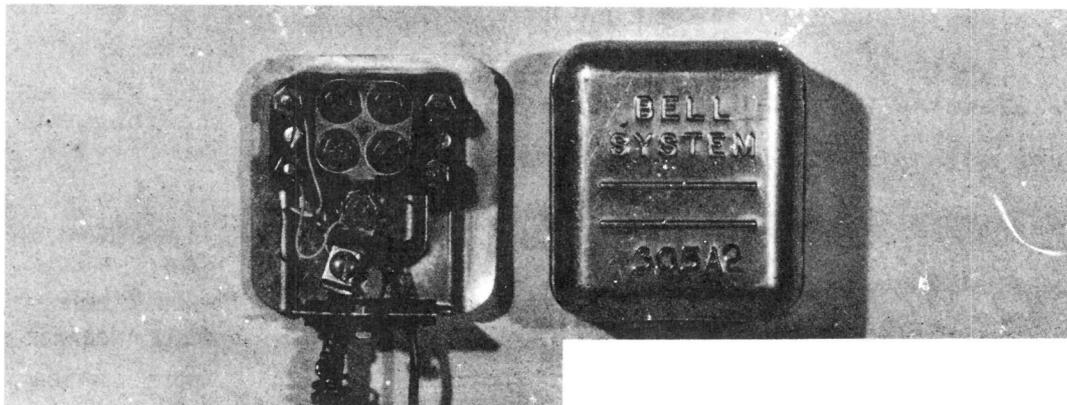

FIGURE 9
7.02 Mount the 305A2 Protector Mounting on the exterior wall of the unit at the desired location. Secure the 128A1A-2 Protector within the 305A2 Protector Mounting. See Figure 9.
- 7.09 Terminate the conductors under the bottom nut of the binding posts on the protector as shown in Figure 9. The top binding posts will be for the White-Blue pair. The bottom binding posts for the White-Orange pair.